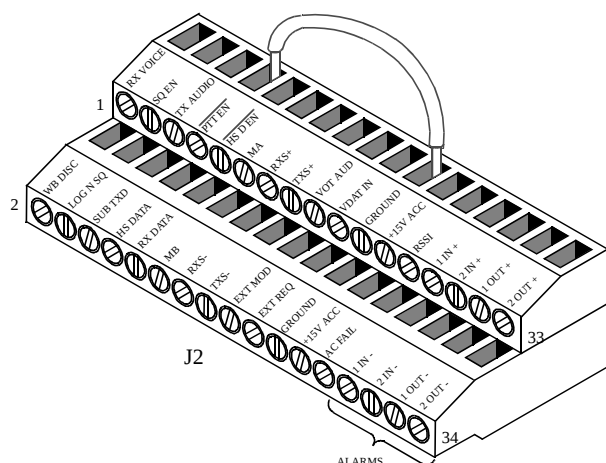

Figure 7-9 J2 - PTT JUMPER
4. Use a jumper wire to ground J2, pin 7 (PTT_N) to J2, pin 21 (GND) (see Figure 7-9). The transmitter should key up and achieve rated power.